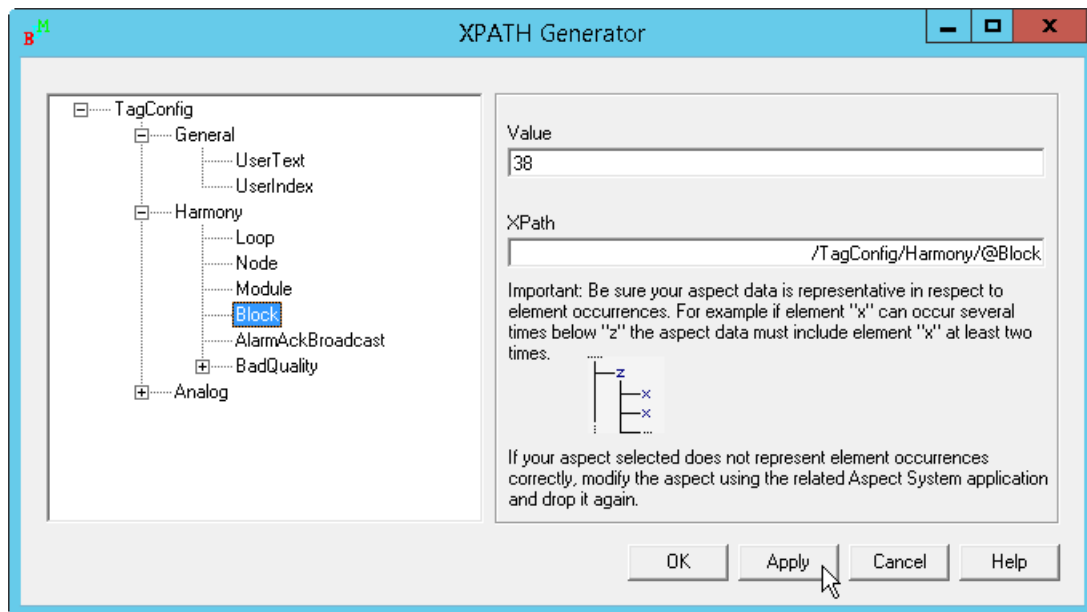
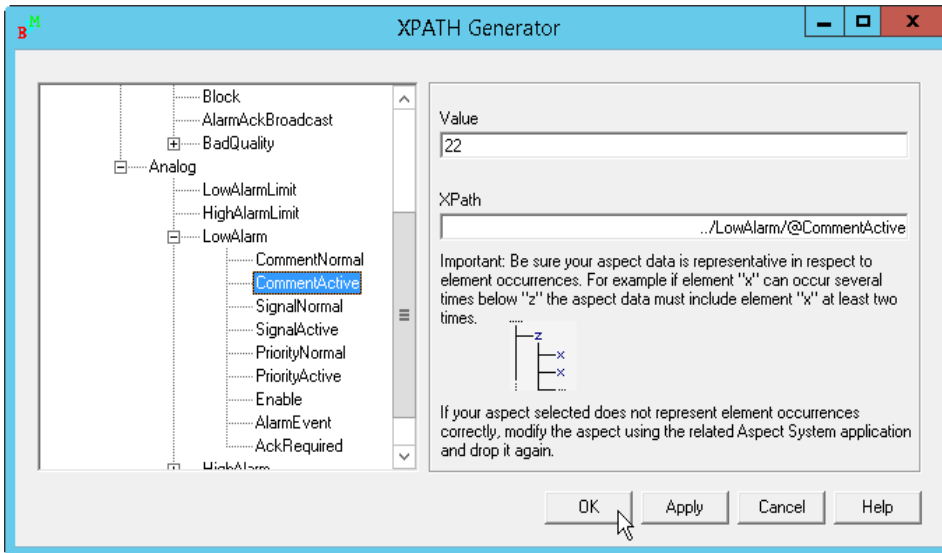

Figure 44. XPATH Generator Dialog
Figure 45. XPATH Generator Dialog - Showing the Copied Path
4. In the XPATH Generator dialog, select a desired tag configuration attribute and click **Apply**. This will copy the **XPath** field to the next available column header cell in the Excel worksheet as shown in Figure 44 and Figure 45